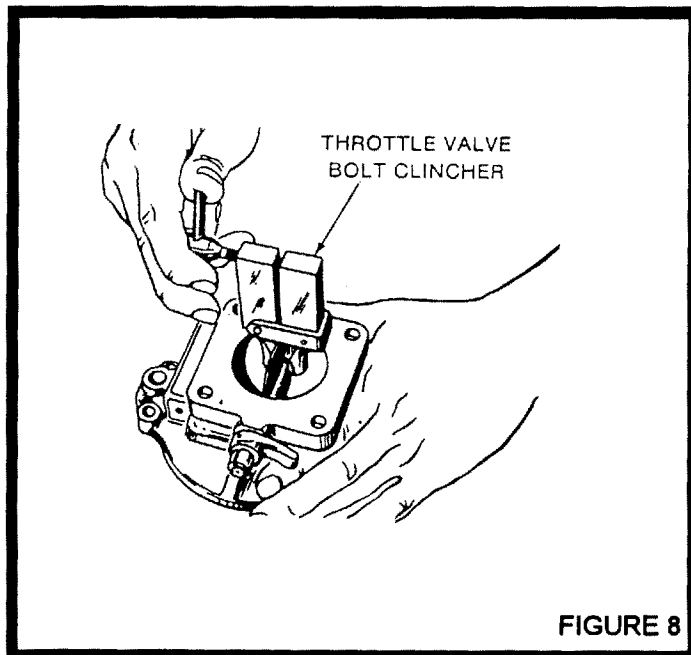

FIGURE 8
- 32) Install the economizer jet (45) if used. Exercise caution, so as not to damage or burr this jet since this can cause a change in flow. Install vent screen (42) if used.
- 33) Install idle drill plug (66) to 12-16 inch pounds with Loctite 222 or equivalent mild threadlock.
- 34) Install throttle shaft (34), throttle valve (33), and throttle valve screws (32). Run screws lightly into place, rotate the shaft to the closed position and tap the valve lightly with the screw driver blade to seat the valve in throttle bore. Hold the throttle valve closed and tighten the screws. Torque screw (32) to 10-15 inch pounds.
- 35) Safety the throttle valve screws in place with clinching tool M-109. See Figure 8. Carefully installed, the shaft will rotate freely from fully closed to wide open. Note: Certain carburetors do not use a wide open valve and you may notice that the valve is limited up to 15° from the fully open position. This is normal and an important part of the full throttle requirements.